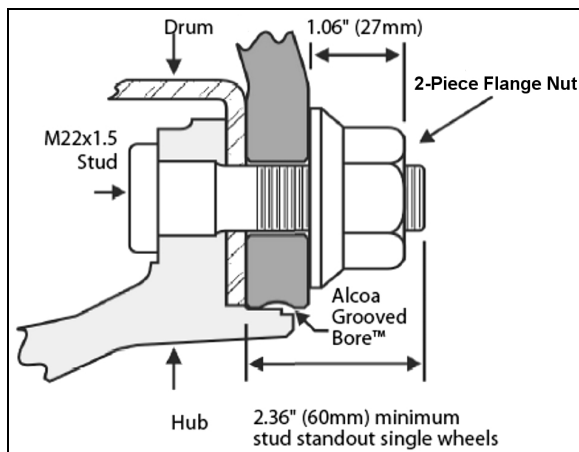

FIGURE 5: SINGLE WHEEL 13025
1. Loosen a hex stud nut three turns (Figure 5);